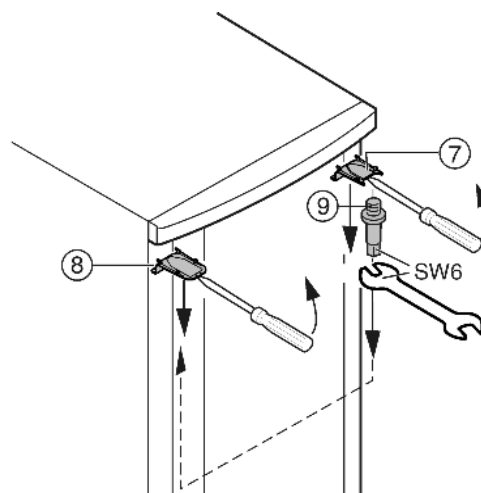

Fig. 7
- ▶ At the top, use a screwdriver to unclip cover *Fig. 7 (7)* and cover *Fig. 7 (8)* at the front, and remove by pulling out and down.
- ▶ Unscrew the bearing pin *Fig. 7 (9)* and screw it firmly into place on the opposite side (**with 4 Nm**).
- ▶ Refit the cover *Fig. 7 (7)* on the side of the bearing pin: insert at the back, snap in at the front.
- ▶ Fit the cover *Fig. 7 (8)* on the opposite side: insert at the back, snap in at the front.
- ▶ Hang the door on the bearing pin *Fig. 7 (9)* at the top.